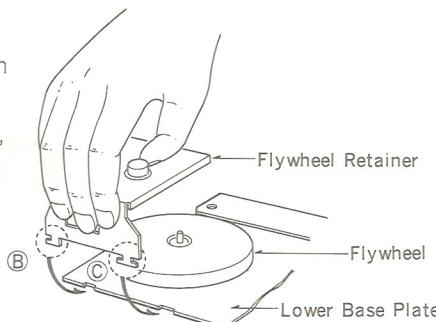

Fig. 19
3. Engage the parts (B) and (C) of the flywheel retainer with the lower base plate as shown in fig. 19.